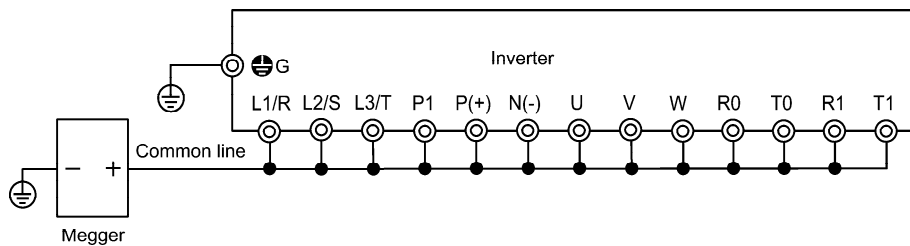

Figure 10.2 Main Circuit Terminal Connection for Megger Test
- 3) Connect the main circuit terminals with a common line as shown in Figure 10.2.